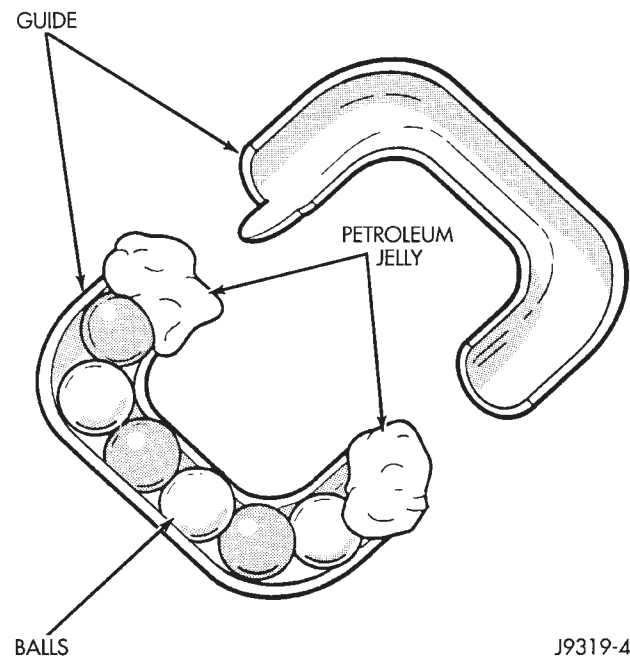

Fig. 34 Balls in the Return Guide
(3) Lubricate and install rack piston balls through return guide hole while turning wormshaft COUNTERCLOCKWISE.
(4) Install remaining balls to guide using grease or petroleum jelly at each end to hold in place (Fig. 34).
(5) Install guide onto rack piston and return with